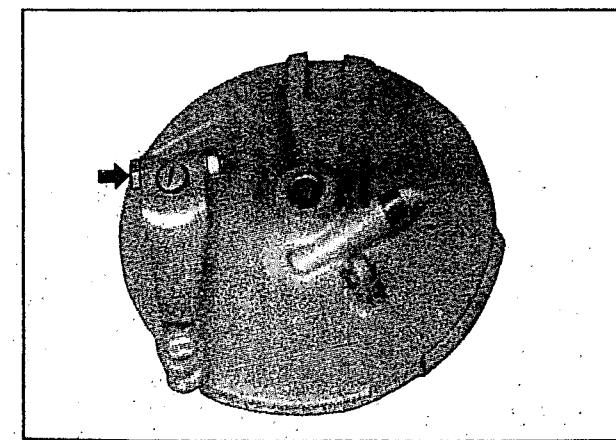

Fig 6.7
- Remove the brake cam lever (fig 6.7 and 6.8)